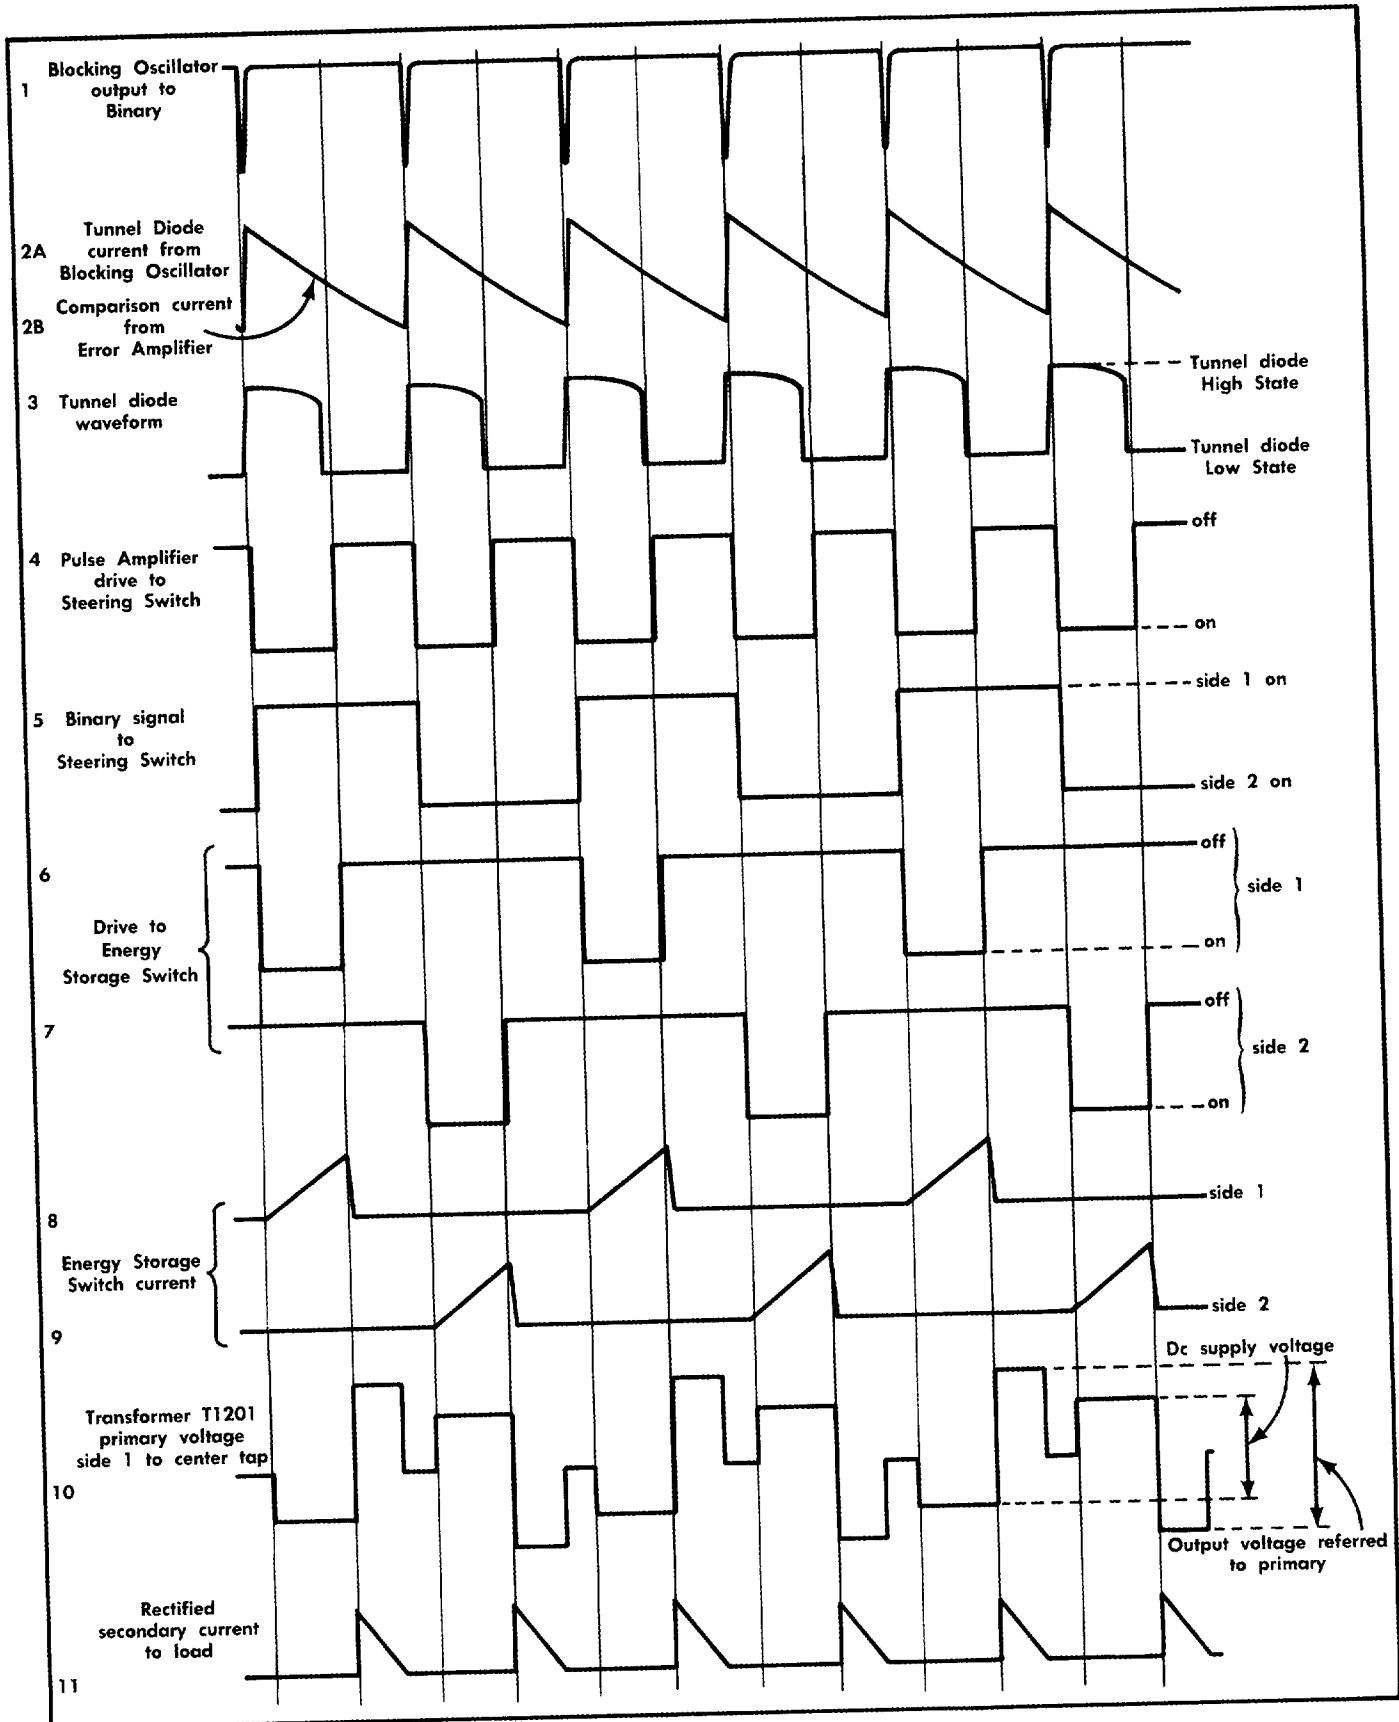

Fig. 3-2. Waveform ladder showing idealized Block Diagram Power Regulator waveform relationships.
In practice, a symmetrical double-sided arrangement is used, with the two sides acting alternately. The magnetic energy is stored in the core of T1201, charging through the primary winding and discharging from the secondaries. Dc power from the Power Selector Switch is connected between the primary center tap and ground reference. The two ends of the primary are alternately grounded by saturating switches Q1174, Q1184 through the reverse voltage disconnect diodes D1176 and D1186. The secondary rectifier diodes, filter capacitors and load currents replace D1, C1 and R1 of Fig. 3-1, respectively. Idealized voltage and current waveforms for the circuit are shown in Fig. 3-2 (waveforms 8-11). Filter elements localize large high-speed
**Block Layout.** The block layout of the entire Dc-Dc Regulator is shown in the Block Diagram, and its associated idealized waveforms in Fig. 3-2. Timing for the converter is provided by a free-running Blocking Oscillator (Q1120), which generates:
- a. A 7-kc train of negative going pulses (waveform 1, Fig. 3-2) which alternately switch the Binary Q1105, Q1115.